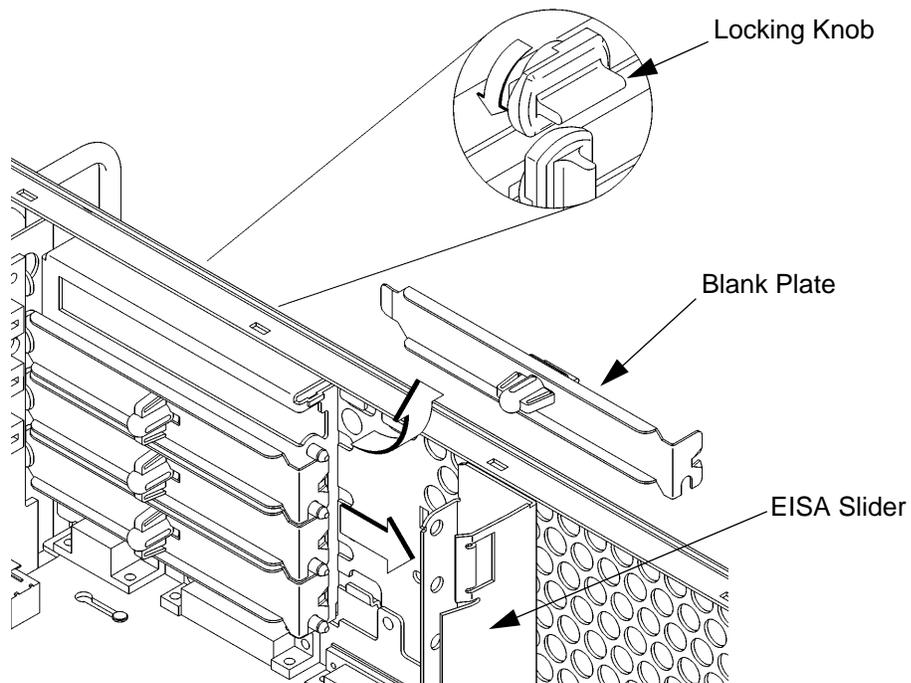

Figure 54 Removing the EISA Slider and Blank Plate
- 4 Remove the EISA slider, as shown in Figure 54.
- 5 In the desired EISA slot, turn the blank plate's locking knob counter-clockwise to unlock the plate, as shown in Figure 54.
- 6 Remove the blank plate from the slot, as shown in Figure 54.